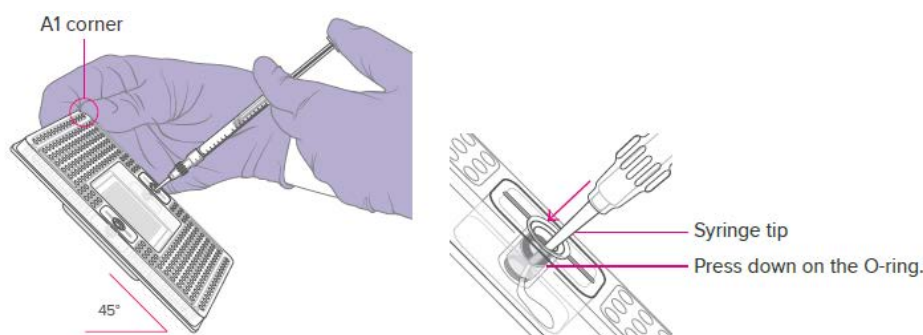

Figure 5. Injecting control line fluid into the accumulators on the 192.24 IFC
- 4 Holding the IFC at a 45° angle, insert the syringe tip into the top accumulator (Figure 5 on page 23).
- 5 Use the syringe tip to press down gently on the black O-ring to move it (Figure 5). Visually confirm that the O-ring has moved.